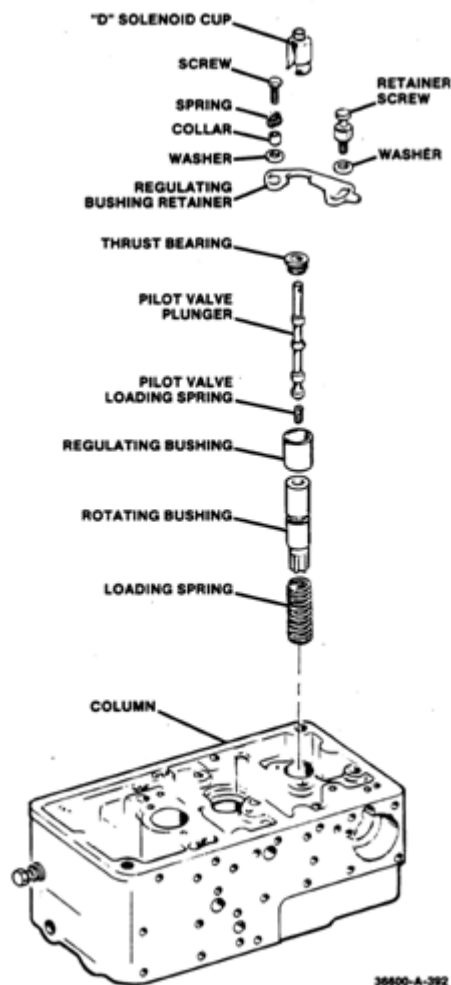

Figure 5-57. Speed Setting Valve
31. Insert loading spring, rotating bushing, regulating bushing, small pilot-valve loading spring, pilot-valve plunger, and thrust bearing (Figure 5-57).
41. Install solenoid pack. Be sure 'D' solenoid pin enters into hole in 'D' solenoid cup (Figure 5-57). Also, be sure the switch handle enters into hole in low-lube oil plunger. Push and pull shutdown plunger and check switch for full travel. Adjust switch position if necessary, to get full travel.